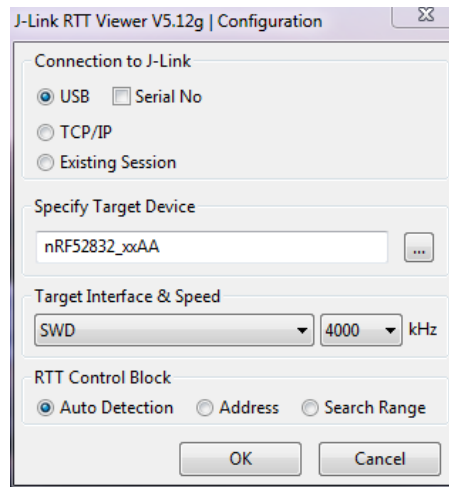

Figure 6. RTT Viewer Configuration
- To see the output of one of the nodes, connect the Segger J-Link programmer to the programming header on the module and start RTT Viewer. Under "Connection to J-Link" select USB, and under "Target Interface & Speed", select SWD, and press "OK". See Figure 6.